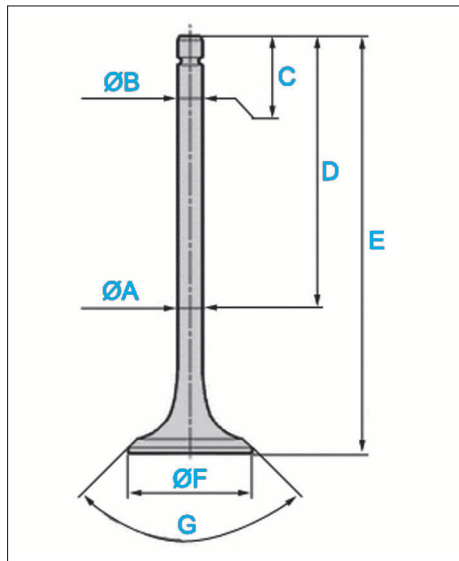

FIG. 7
**SOUPAPES (FIG.7)**
**Cotes des soupapes (Fig.7)**